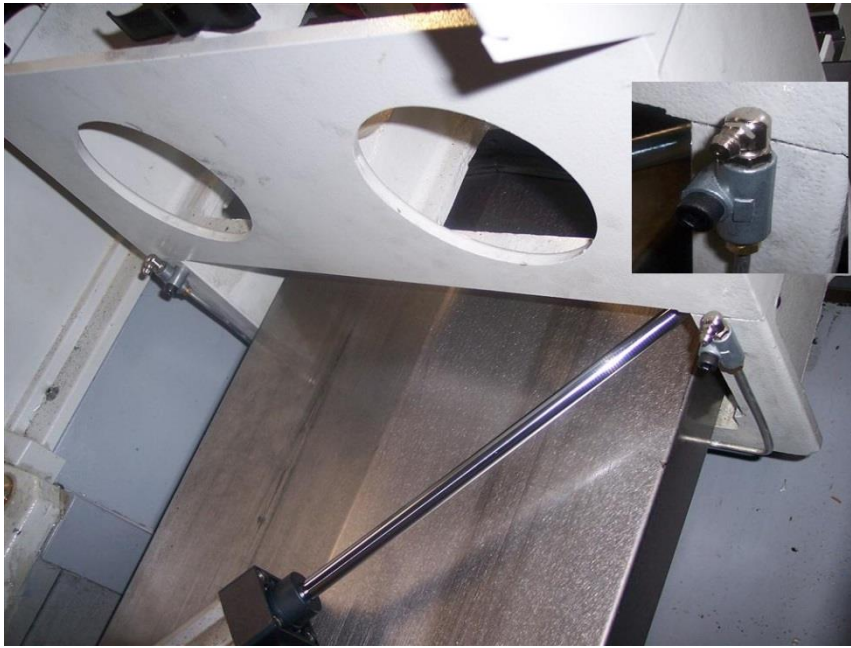

Figure 3.9
3. Apply a good grade of general-purpose lithium based grease (#1.5 or 2) like Shell Gadus S5 V460 1.5 or equivalent through the grease fittings found at the rear of the machine that supply grease to the ATC linear guide blocks. The manufacturer of the linear guide blocks recommends 1 cm3 of grease every 100 kilometers of travel. This equates to ~ 100000 tool changes. The frequency of adding grease should be based on how many tools changes you make per day. See figure 3.9.